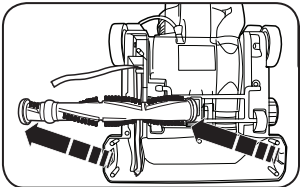

Fig. 2
2. Lift out the brushroll and remove the belt (Fig. 2).